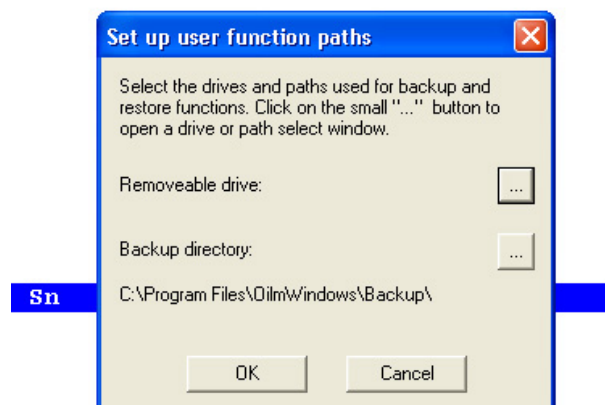

Figure 4-3, Set-up User Functions Paths Screen
3. If user functions have been accessed, the window shown in Figure 4-5 open. Proceed with step 7. If no user functions have been previously accessed, the window as shown in Figure 4-3 will open. Proceed with step 4.
6. The “Set up user functions paths” window, Figure 4-3, reopens. Click on the OK button to continue.